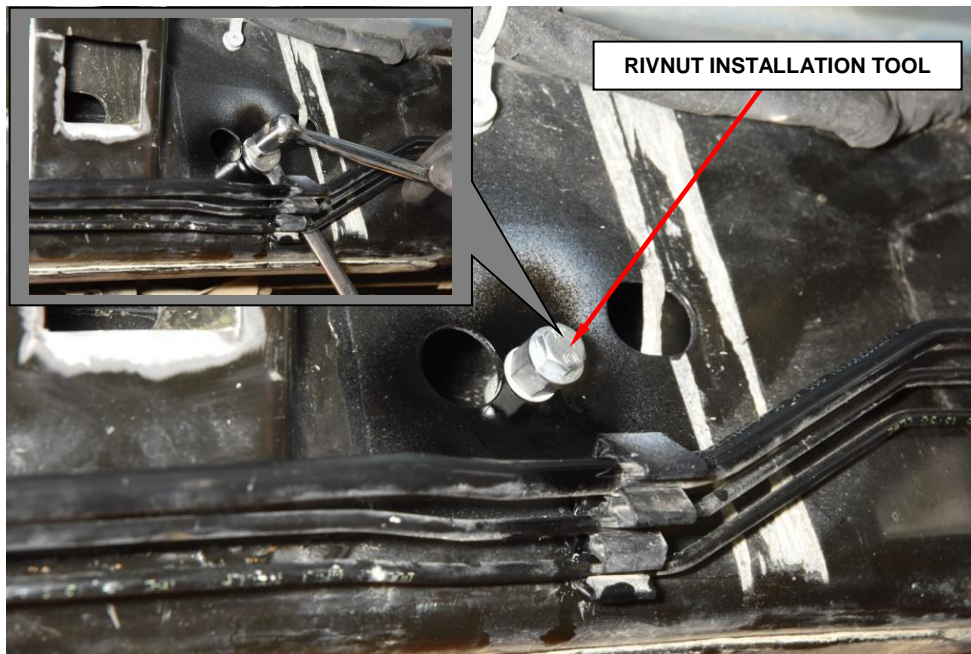

Figure 19 – Rivnut Install
44. Using the installation tool WTT106001A or equivalent install the rivnut onto the tool then into drilled out hole and use an wrench to hold the nut and a wrench to turn the bolt fully until it will no longer turn (Figure 19).